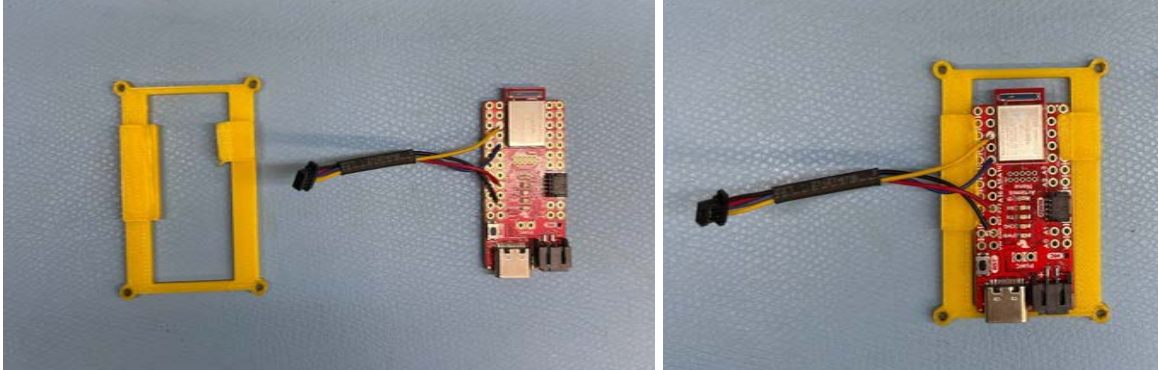

Figure 85: The microcontroller inserted into the microcontroller fixture.
7. Slide the microcontroller assembly into the 3D printed microcontroller fixture in position shown in Fig 85.